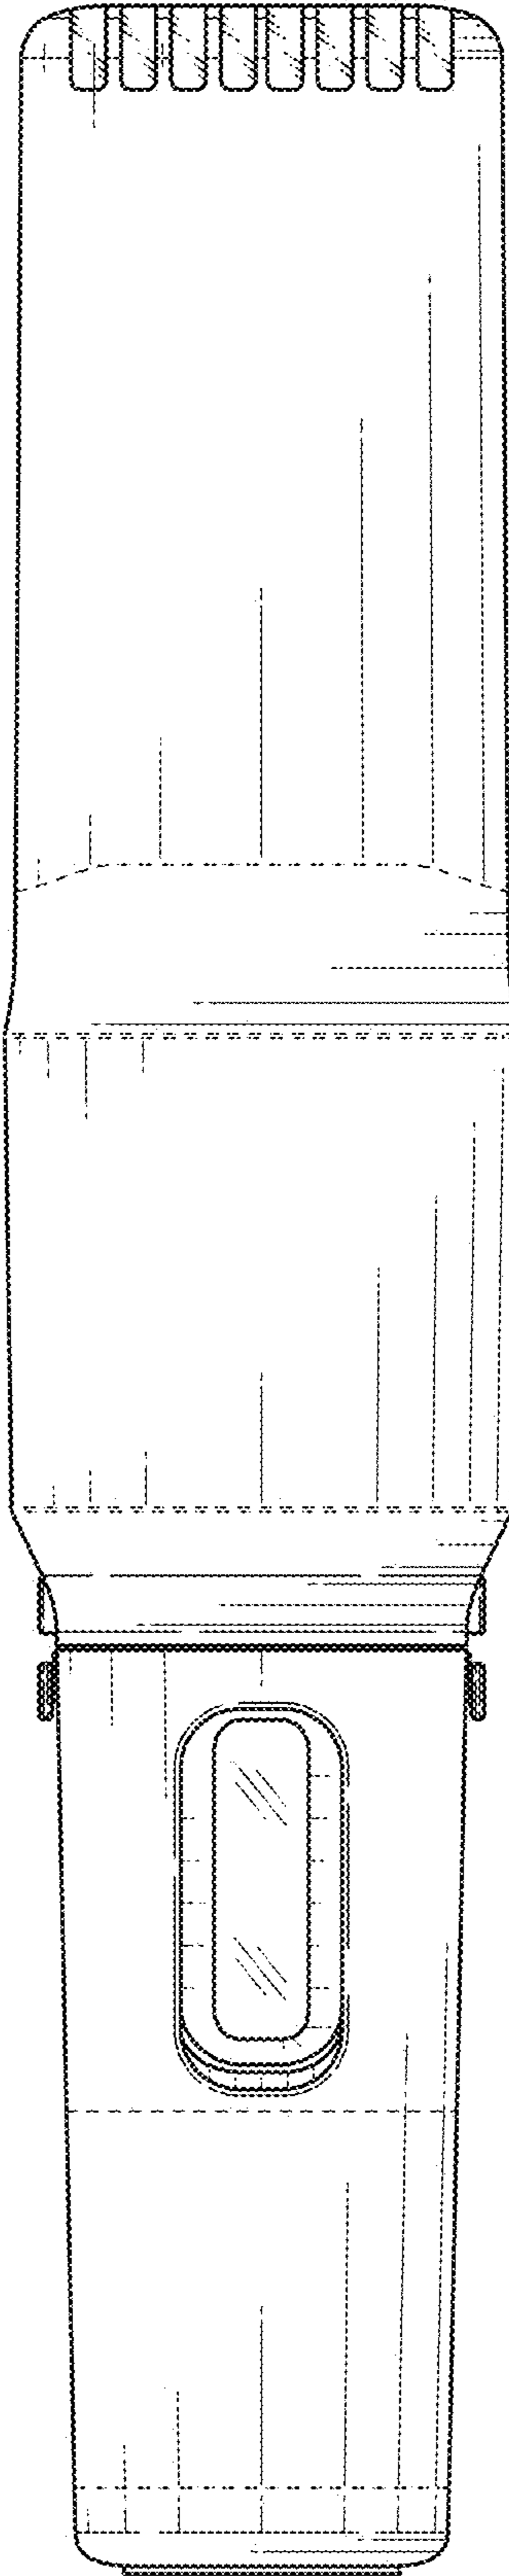

FIG. 3
- FIG. 3 is a bottom elevation view thereof;